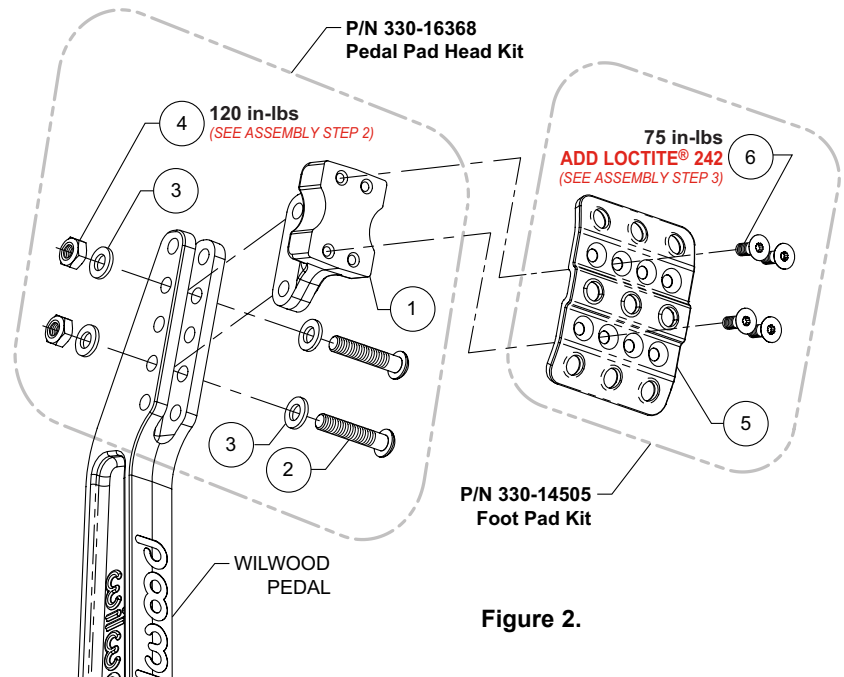

Figure 2.
**STEP 1** Install the pedal pad head (1) into the “fork” of the pedal arm in the desired location as shown in Figure 2. Secure in place using bolts (2), washers (3), and locknuts (4).
**STEP 2** Torque locknuts (4) to value indicated in Figure 2.
**STEP 3** Orient foot pad (5) as shown in Figure 2. Pad may be installed in three different positions as shown in Foot Pad Detail of Figure 1b. Secure to pedal head (1) using four T-20 drive Torx screws (6). Apply blue *Loctite*® 242 to the threads and torque to value indicated in Figure 2.
**STEP 4** Screw the clutch pedal stop bolt (7) into jam nut (8) and then into the clutch pedal, not shown. **NOTE:** Final adjustment of stop bolt will be performed after pedal installation in vehicle.